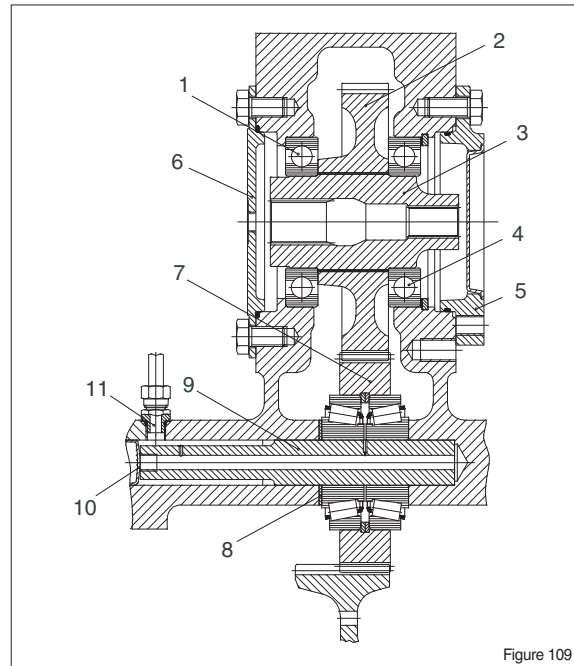

Figure 109
- (2) Position spur gear (2).
- ※ Pay attention to the installation position, see sketch (figure 109).